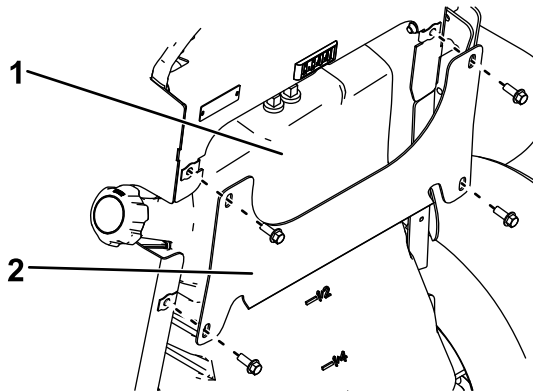

Figure 33
3. Remove the cross bracket (Figure 33).